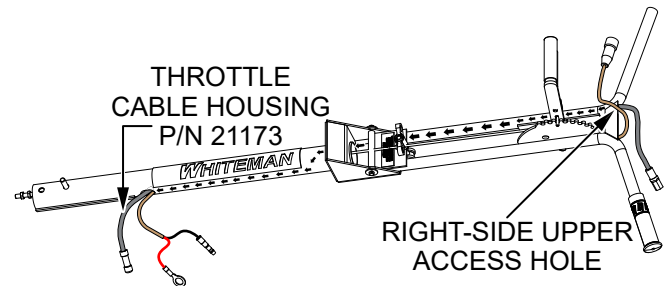

Figure 6. Route Cable Housing
- Route the **throttle cable housing** (P/N 21173) from the left-hand grip area to the **right-side upper access hole** and down through the right-side handlebar tube as shown in Figure 6. **DO NOT** install the throttle cable or primary throttle return spring at this time.